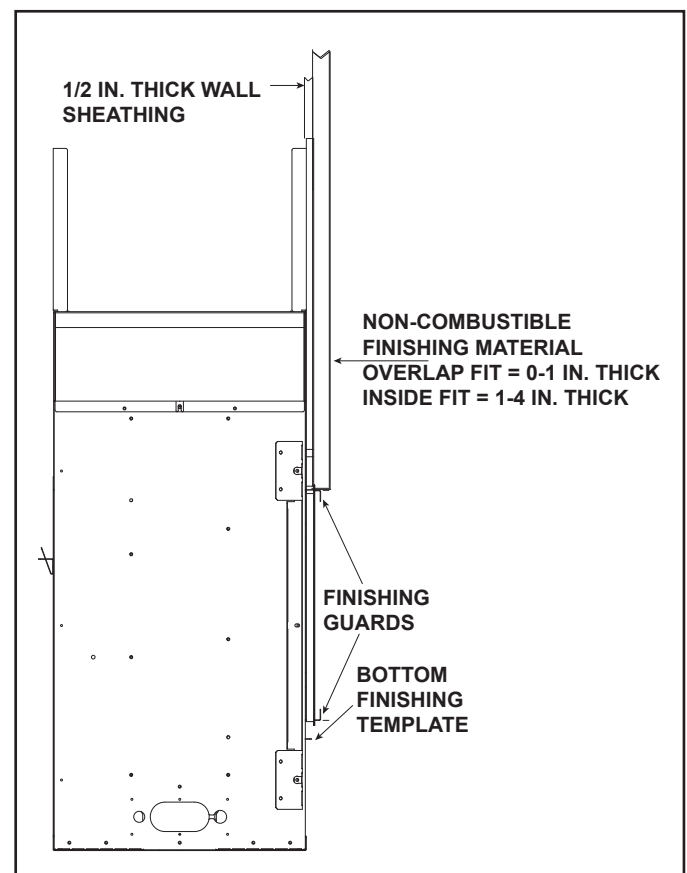
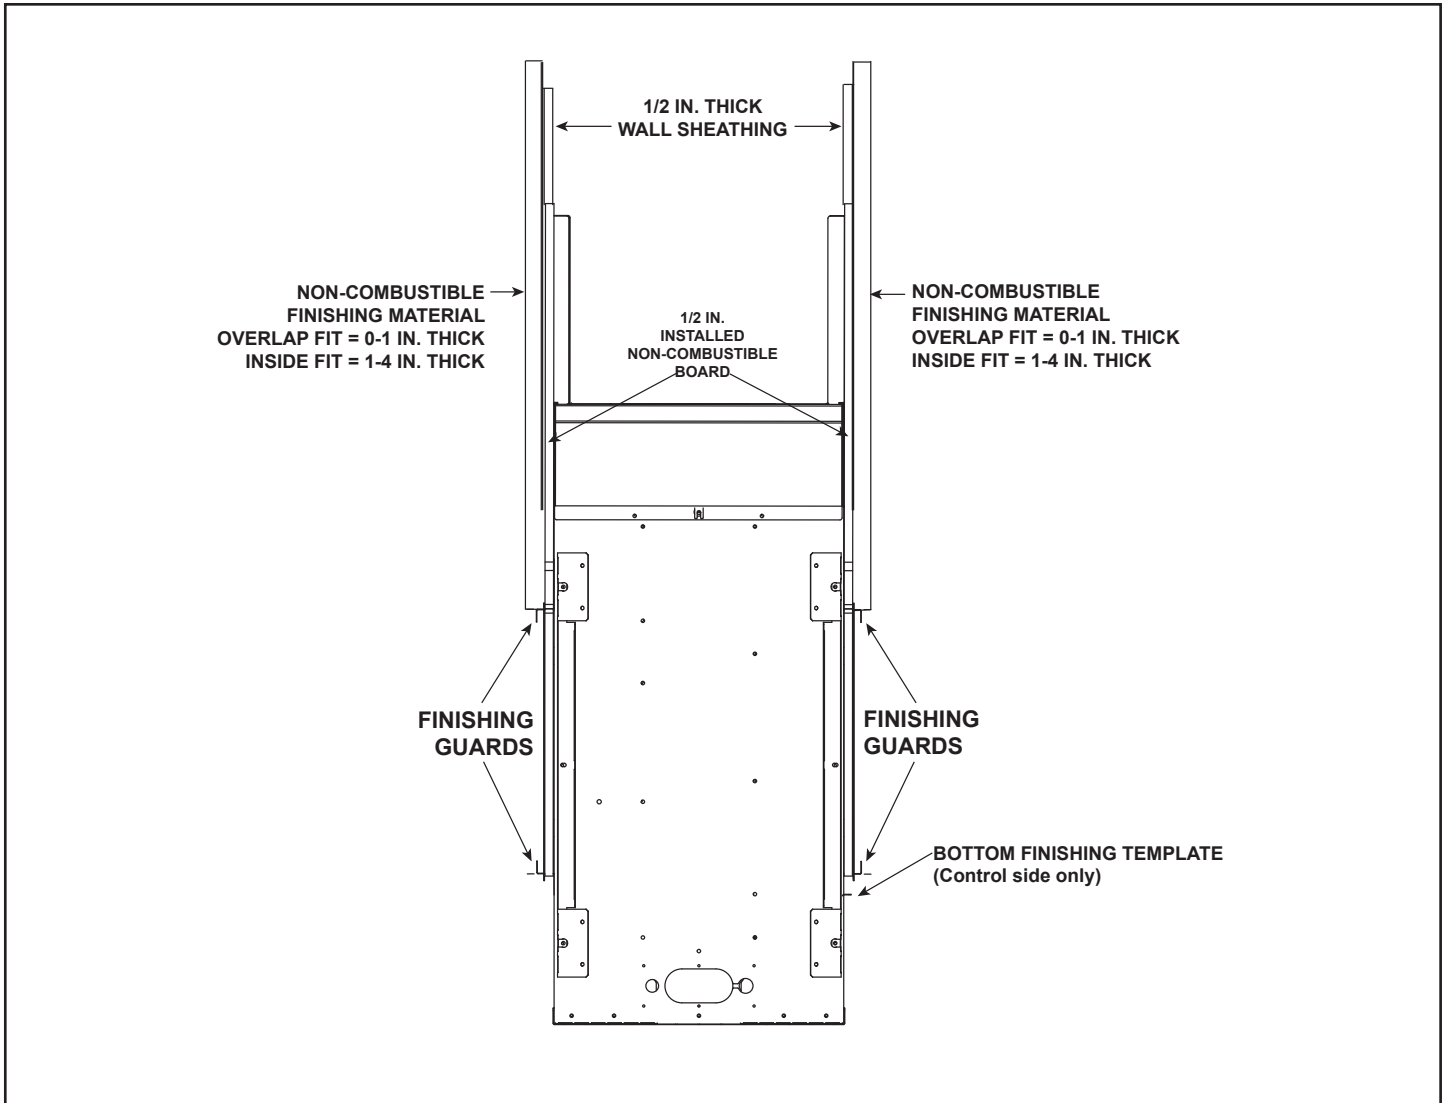

Figure 10.2 Finishing and Facing Materials - Single-Sided Models
Figure 10.3 Finishing Materials - See-Through Models
Decorative facing material thickness is measured from the face of the installed non-combustible board. See Figure 10.2 and Figure 10.3.
The fronts for this appliance are compatible with non-combustible materials. See Figure 10.2 and Figure 10.3.
Installation of finishing materials can be accomplished by either the "overlap" or "inside-fit" method, depending on what type of decorative barrier front is to be installed. See Figure 10.2 and 10.3. Overlap fit decorative barrier fronts include the Quattro and Loft Forge. The Clean Face Trim Front (CFT) can be either an inside fit or an overlap fit. See Table 1.
1. Remove bottom finishing template from bottom access panel. Verify that factory-installed finishing guards are installed to ensure finishing material does not extend into the fireplace opening. See Figure 10.2 and 10.3.
1. Remove bottom finishing template from bottom access panel. Verify that factory-installed finishing guards are installed to ensure finishing material does not extend into the fireplace opening. See Figures 10.2 and 10.3.